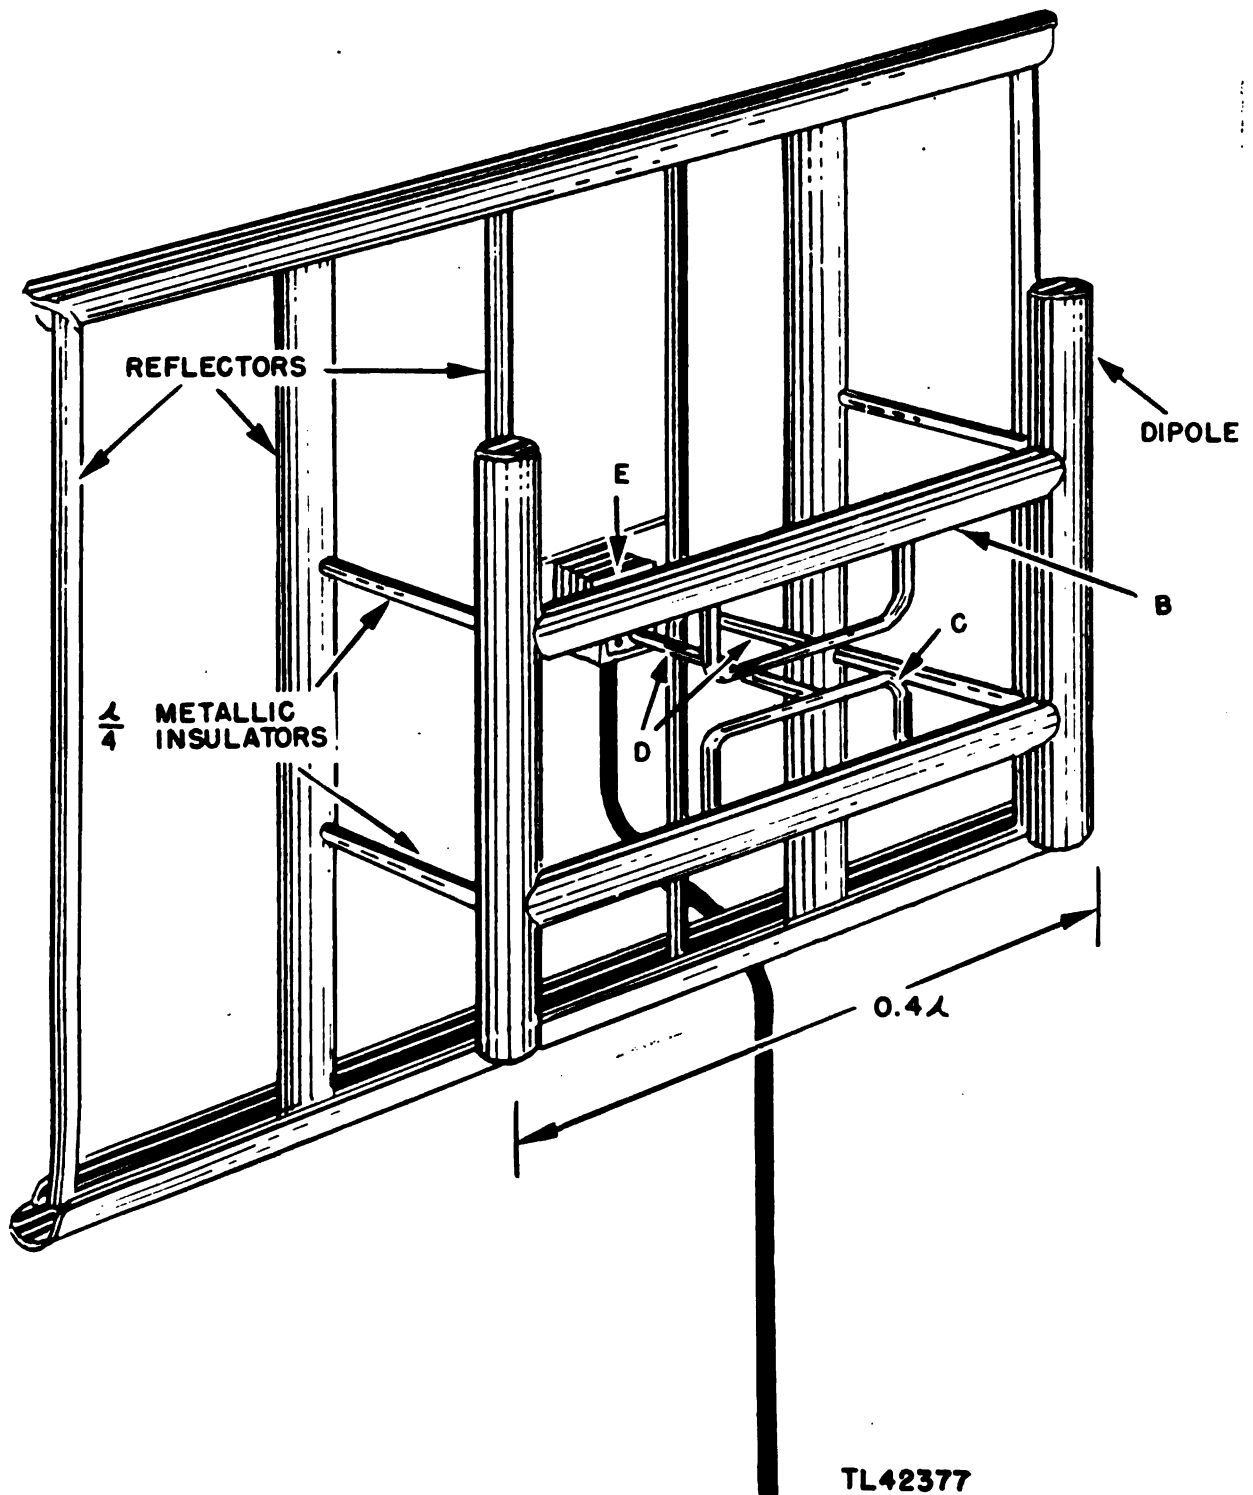

Figure 22. Antenna array.
reflectors, from which they are separated by  $\frac{1}{4}$  wavelength metallic insulators. (See fig. 22.) The physical spacing between dipoles is approximately 0.4 wavelength. Feeding the dipoles are two horizontal transmission lines in the form of metal tubes (B). Two Y-shaped impedance matching transformers (C) feed the transmission lines. The Y-shaped transformers are, in turn, fed by a quarter-wave section of transmission line (D), which is connected through coupling (E) to the transmission line from the transmitter.